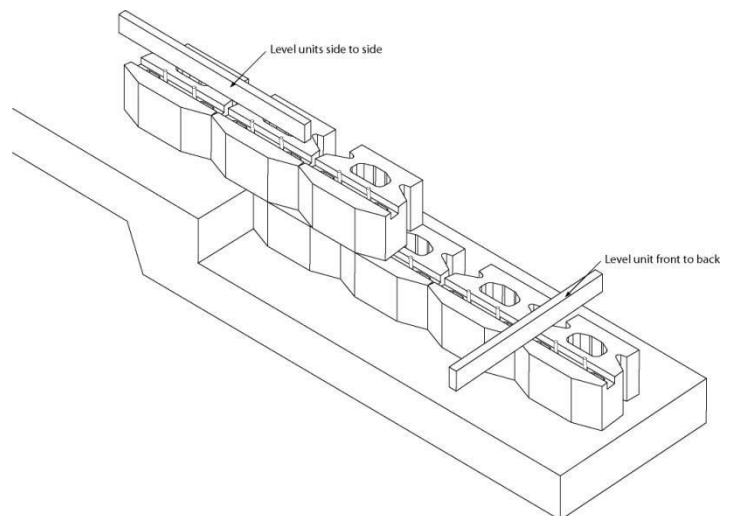

Figure 1 First course of blocks laid on levelling pad
6. Ensure that the blocks are level front to back, side to side and to the correct alignment (Figure 1). Align the blocks with a string line placed on the back of the block, or for curved walls to the appropriate radius, but using the back of the block as the datum. Allow the mortar bed to cure before laying additional courses.
7. Place a pair of Tensar TW3 fibreglass pins into the pinholes (Figure 1). The TW3 facing block is designed for use with the Tensar TW3 polymeric connector and has only two holes set to form a finished wall face at a nominal face angle of 89.6° (1:128)